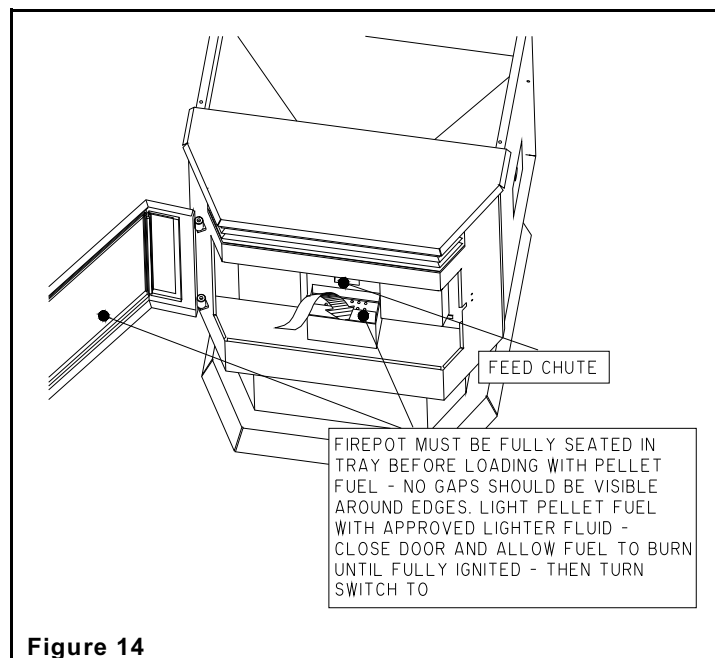

Figure 14
**IMPORTANT:** The fire pot must be seated flush and must sit even in the pot tray. Air leaking around the fire pot will create a poor burn (**Figure 14**). Light the pellets in Fire Pot using any approved pellet fuel starter.